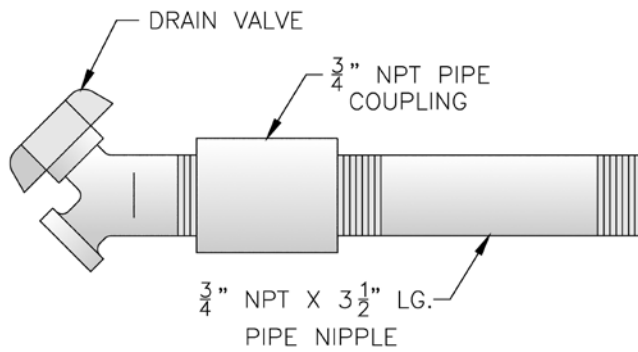

Figure 17: Drain Piping Installation
D. Install Drain Valve in rear of Left End Section, Tapping "G". See Figure 17. Components are located in Water Trim Carton.